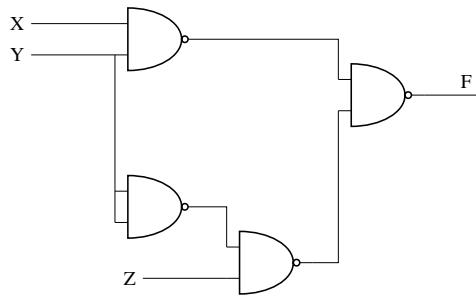

Fig. 3.5
14. Find F in the Digital Circuit given in the figure below in Fig. 3.5. (GATE IN 2016)